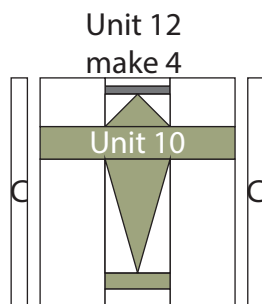

Fig. 17
17. Sew (1) $1\frac{1}{2}$ " x $14\frac{1}{2}$ " Fabric C strip to each side of (1) Unit 10 rectangle lengthwise to make (1) $14\frac{1}{2}$ " x $14\frac{1}{2}$ " Unit 12 square (Fig. 17). Repeat to make (4) Unit 12 squares total.